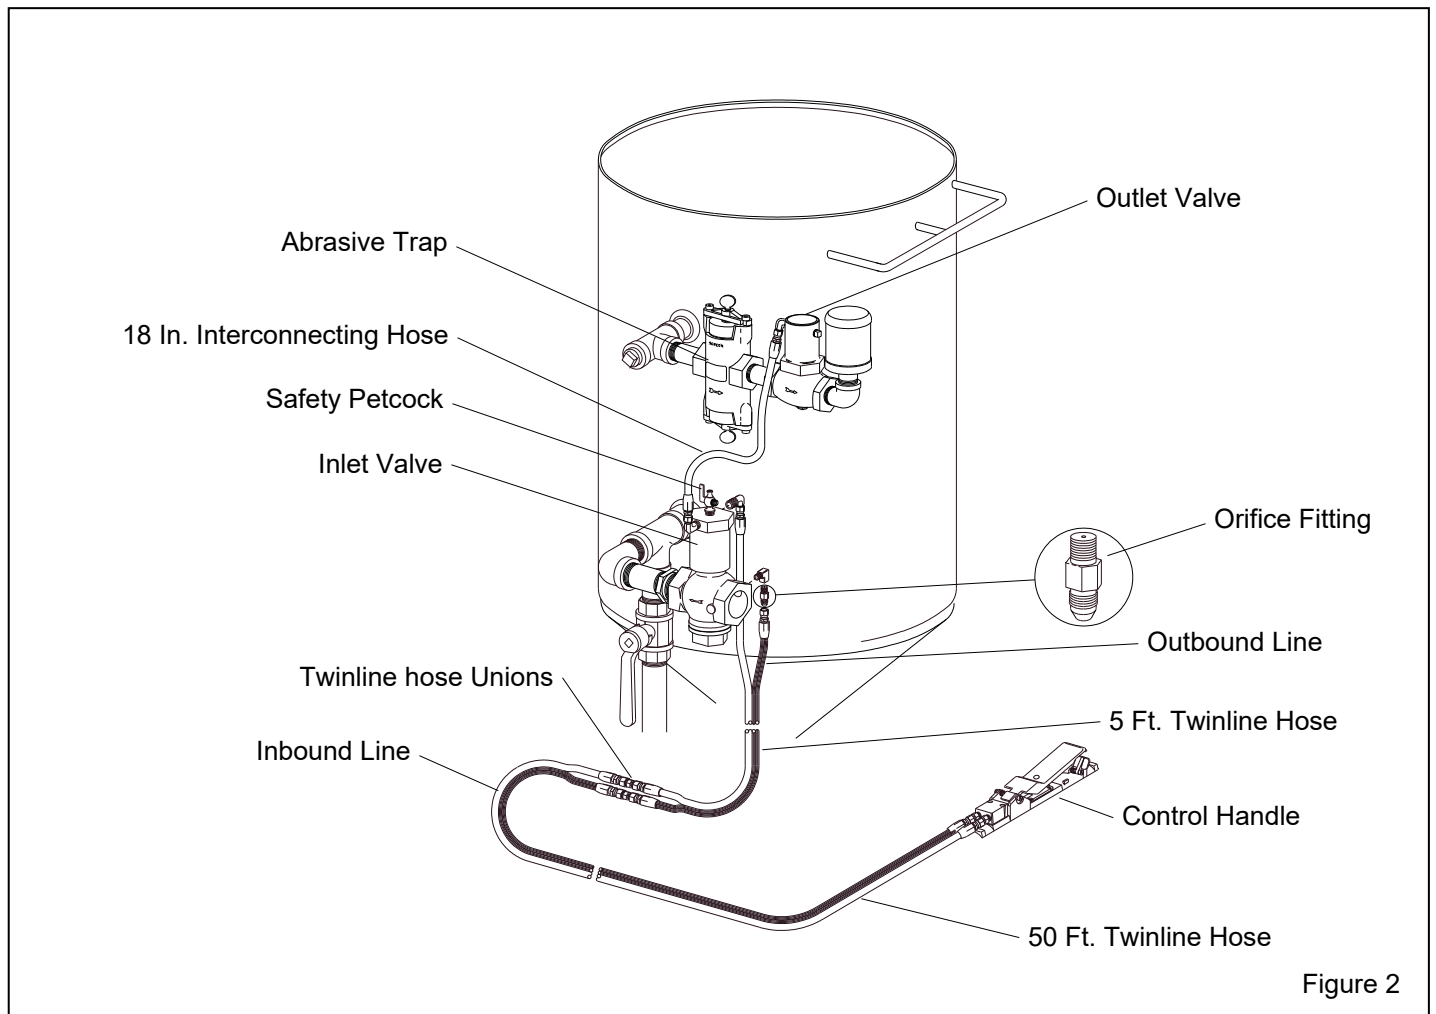

Figure 2
1.3.1.1 The primary components of the blast machine and the remote control system are shown in Figure 1. Additional components of the remote controls are shown in Figure 2.
1.3.3.5 Clemco remote controls operate pneumatically on return air (See Figure 2). If the control handle lever (the main activator of the system) is in the up (no blast) position, one stream of air travels down the outbound line, shown as the dark line in Figure 2, and escapes through an opening located under the lever. The normally-closed inlet valve remains closed, and the normally-open outlet valve remains open. When the control handle lever is pressed, the opening under the lever is sealed, and air in the outbound line returns through the inbound line to open the inlet valve and close the outlet valve. This action pressurizes the blast machine and begins the blasting process. Releasing the handle exhausts control air, which closes the inlet valve, and opens the outlet valve to depressurize the blast machine and stop blasting.
2.1.1 Attach the 5-foot twinline hose to the inlet valve as shown in Figure 2, one side connects to the unused upper elbow, the other to the orifice fitting. Either side can connect to either fitting.